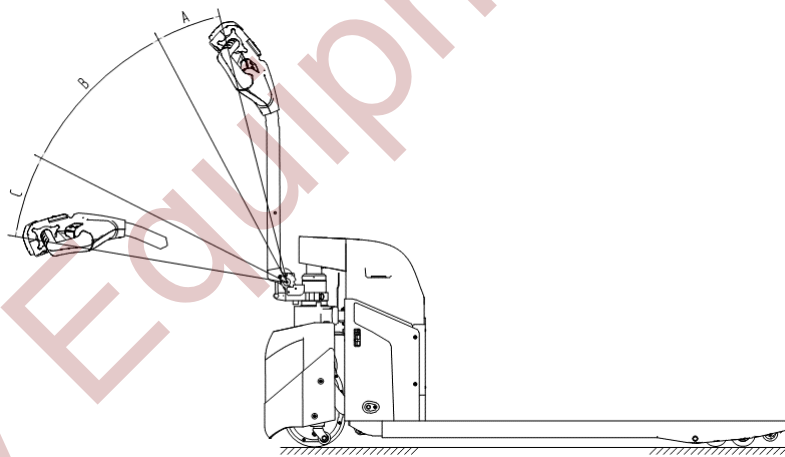

Fig.2
- As shown in Figure 2, press down the handle to keep the handle in Section B.